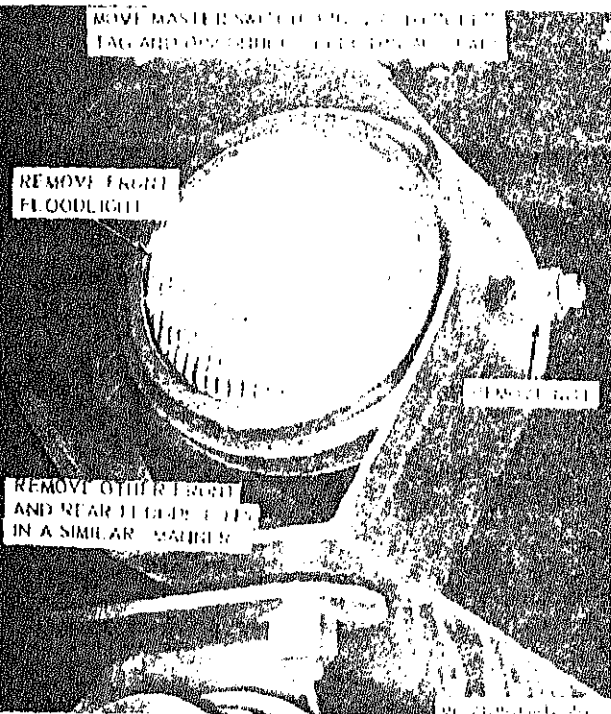

Figure 4-9. Floodlight assembly, removal and installation.
(2) Inspect for cracks, breaks and other damage. Replace defective floodlight assembly and parts as necessary.
c. *Installation.* Refer to figure 4-9 and install floodlight assembly.